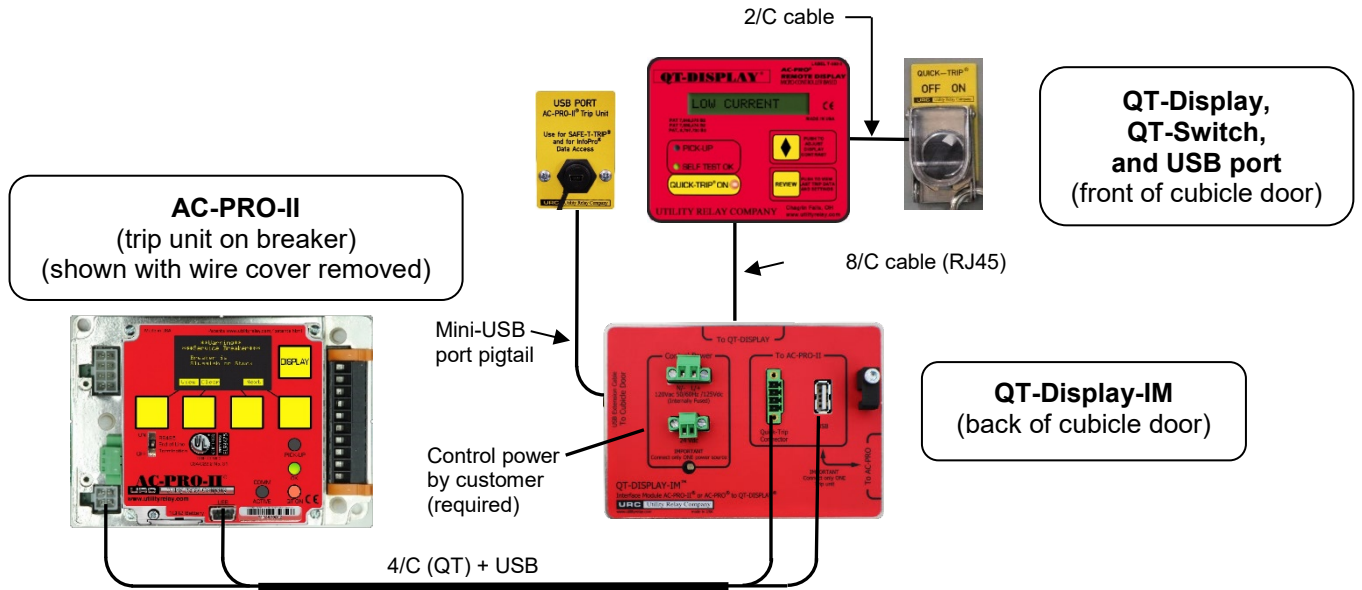
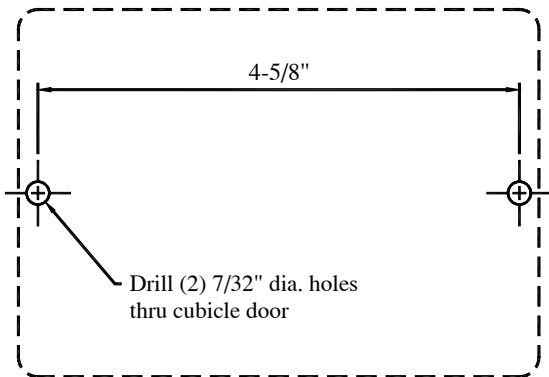

Figure 1: QT-Display-IM with AC-PRO-II
Figure 6: QT-Display-IM Drilling
The QT-Display-IM (Quick-Trip Display Interface Module) mounts to the back of a cubicle door and allows the URC door-mounted QT-Display and QT-Switch products to be used with breakers equipped with either AC-PRO or AC-PRO-II. In addition, the QT-Display-IM can be used with the QT-Display and QT2-Switch, if already installed. See Figures 1, 2, and 3 for possible system configurations.
Refer to Figures 6 and 7 for QT-Display-IM installation details.
1. Find a suitable location on the cubicle door and mark the location of the two (2) holes using the dimensions in Figure 6. Note that the mounting screw heads will be visible on the front of the cubicle door.
2. Drill two (2) 7/32" mounting holes.
3. Attach the QT-DISPLAY-IM to the back of the cubicle door using the two (2) supplied 8-32 x 1/2 Phillips HD screws and lock washers.
5. Make the electrical connections shown in Figure 1, 2, or 3.